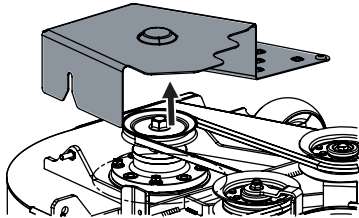

Figure 55
3. Remove the belt covers from the deck. See Figure 55.